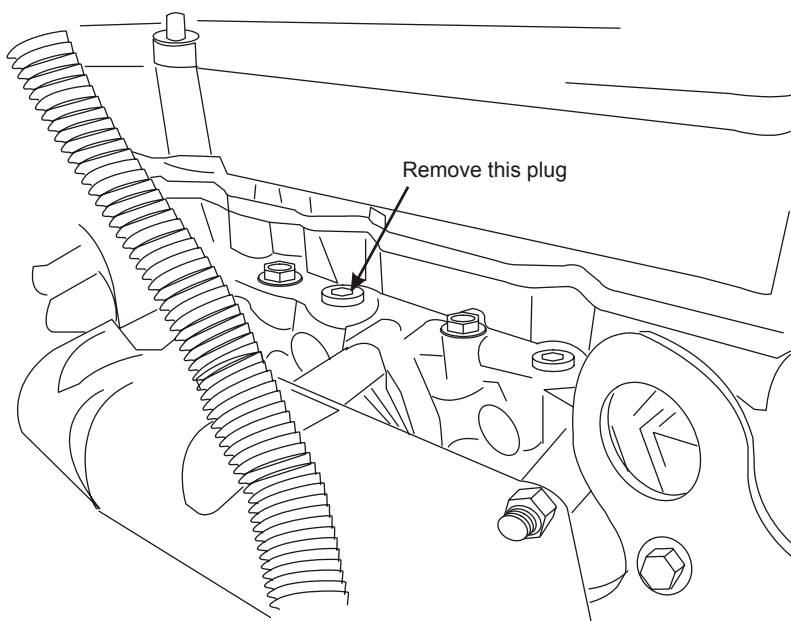

Figure 1.1
- ☐ Remove the plug from the cylinder head (Figure 1.1) and install the supplied 1/2 inch NPT to 5/8 inch hose barb in the cylinder head port.